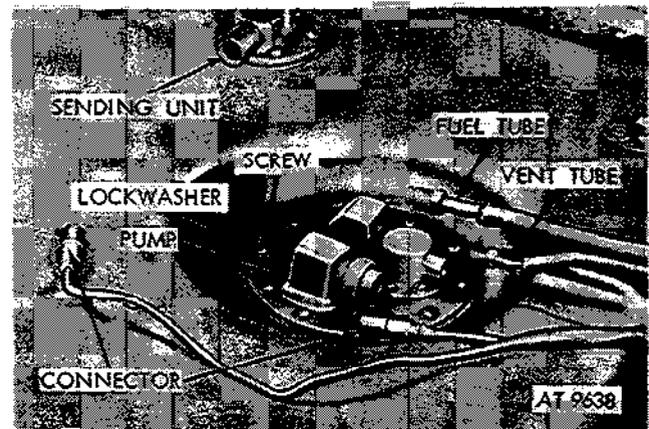

Figure 2-108. Disconnect tubes and connectors from fuel pump (M151, M151A1, M151A1C, and M718).
(1) Remove seats.
(2) Disconnect electrical connectors from fuel pump (M151, M151A1, M151A1C, and M718) and sending unit (fig. 2-108). Disconnect fuel and vent tubes. Remove ten screws and lockwashers securing fuel pump (M151, M151A1, M151A1C, and M718) or fuel tank cover (M151A2, M825, and M718A1) to fuel tank.
(4) Disconnect electrical connectors at fuel level sending unit and fuel pump on M151, M151A1, M151A1C and M718 (fig. 2-108). Disconnect fuel lines and vent line at tank connecting points.
(2) Connect fuel line and vent line. Connect electrical connector at fuel level sending unit and fuel pump on M151, M151A1, M151A1C and M718 (fig. 2-108).
(3) Replace driver's seat.
(4) Replace drain plug.
a. General. Figure 2-108, 2-118, and 2-119 show the fuel and fuel ventilation tubes, hoses, and connections in the engine and passenger compartments.